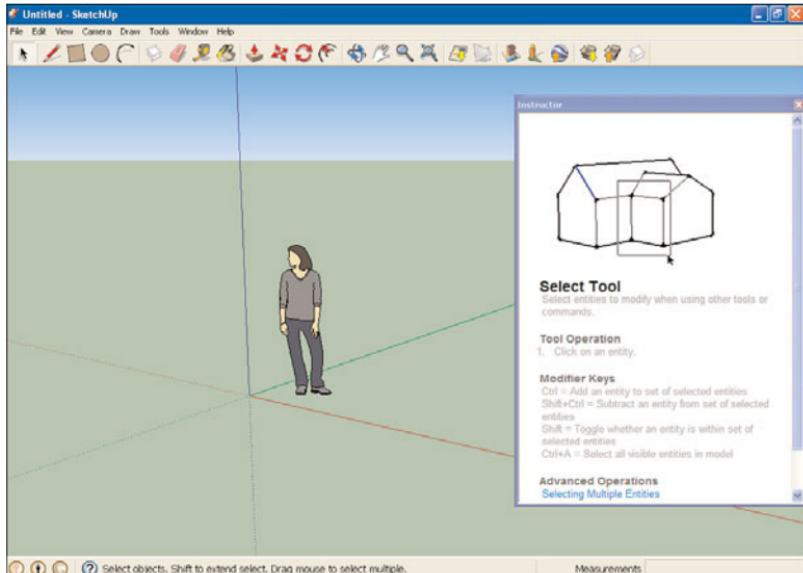

FIGURE 2.7 A Simple Template in Google SketchUp.
4. Click the **Start Using SketchUp** button. SketchUp appears, as shown in Figure 2.7, using the template we've selected as background.